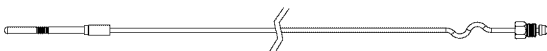

FIGURE 33.
4. Pull the thermocouple from the pilot assembly (Figure 33).